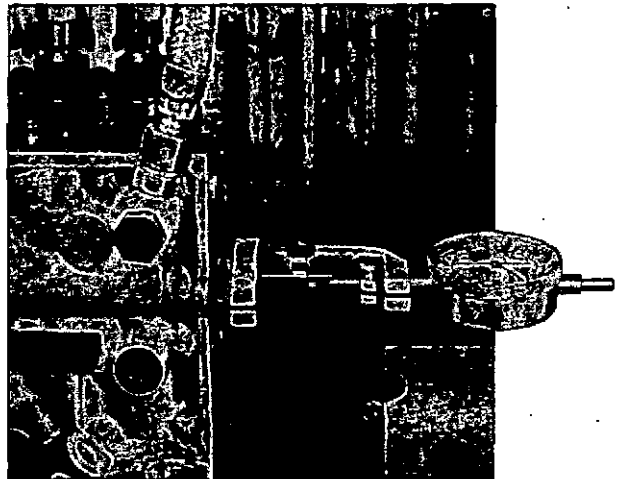

Fig. 62 Measuring rack travel
- (ii) Remove the excess fuel device (or smoke stop, as applicable) and fit the rack travel measuring rig 1 688 130 030, together with its dial gauge 1 687 233 015, as shown in fig. 62. With the control rack in the STOP position, zero the dial gauge and tighten the clamping screws. Ensure that the rack can travel its full range of approximately 21 mm.